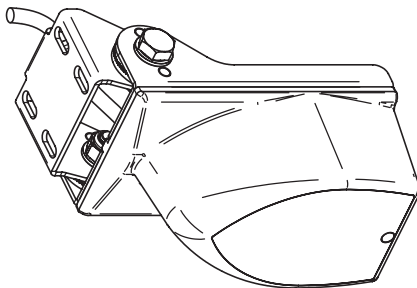

Fig. 2 — TM70xxx / TM87xxx series transom mount transducer
1. Attach the transducer body to the bracket by inserting the two pivot bolts through the holes in the bracket arms and the transducer support, adding washers on both sides of each bolt and securing with the nuts — hand-tight for now (see Fig. 2).
1. Before routing the cable along the transom, secure it to the bracket using the cable grommet on the dedicated cable holder slot on the bracket arm (as shown in Fig. 2). This prevents the cable from pulling directly on the transducer connection and absorbs vibration.